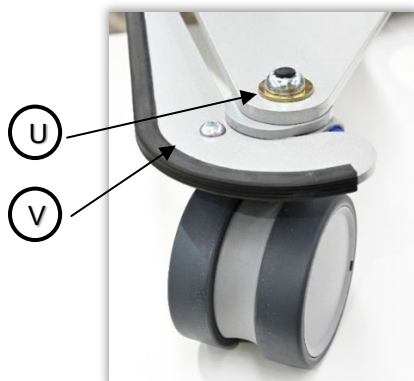

FIGURE 17. CENTRAL LOCKING CASTOR
3. Remove the screw and nut (V) attached to each blue braking pedal, to remove the central locking bars (Figure 17).